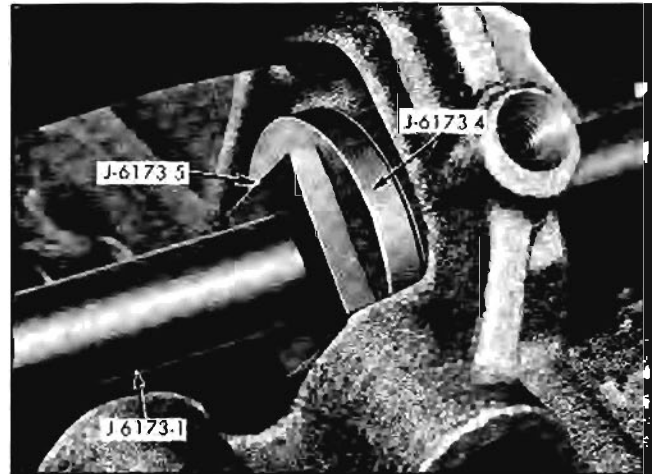

Fig. 6-43 Tools Positioned for Bearing Removal
5. Slip Key J-6173-5 into notches in shaft behind bearing to be removed (Fig. 6-43).